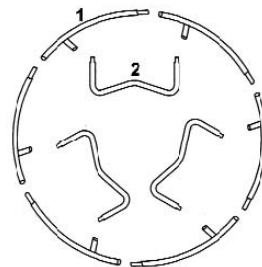
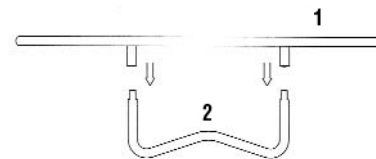

fig. 1
fig. 2
There are a total of 6 steel pipes (1) for putting the frame together. All parts with the same parts number are interchangeable and there is no difference in terms of left or right alignment. To connect the parts, simply put the narrower end of a pipe into the larger end of the next pipe (fig. 1). Then the 3 feet (2) are put into the connecting pieces. Take care that the click mechanisms snap together (fig. 2).